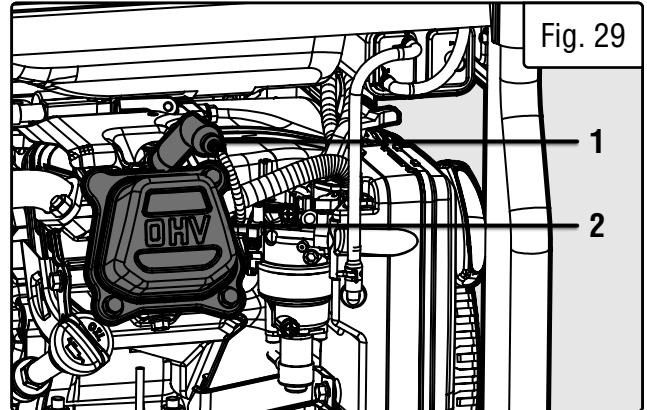

Fig. 29
1. Gently pull on the spark plug boot (Fig. 29 - 1) to remove it. Be careful not to tear any insulation or wire.